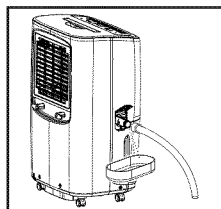

fig. 6
- When you want to remove the garden hose, prepare a drip tray (not supplied) to collect the water from the nozzle. (fig.6)